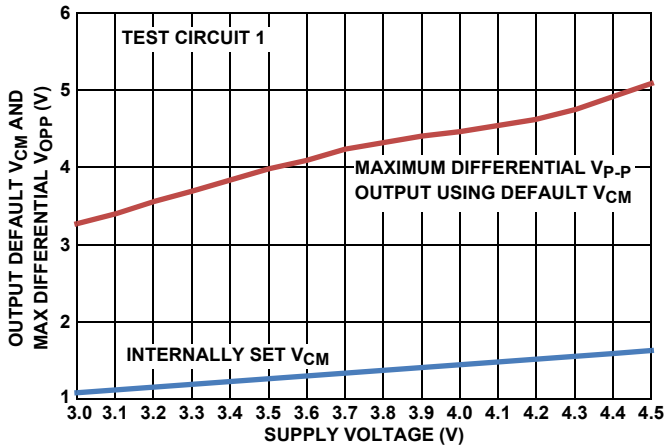
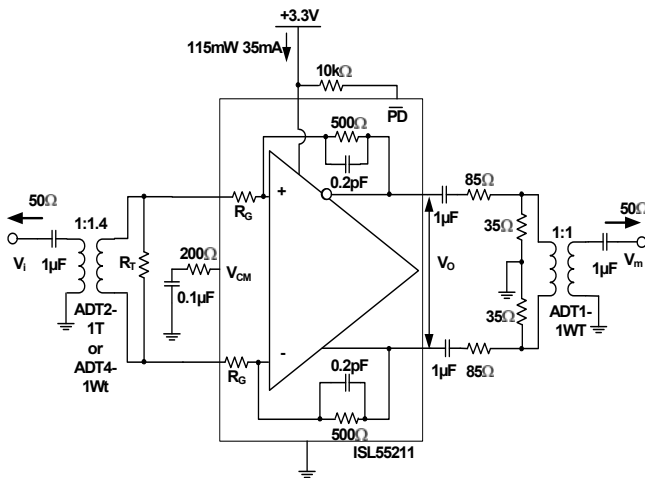
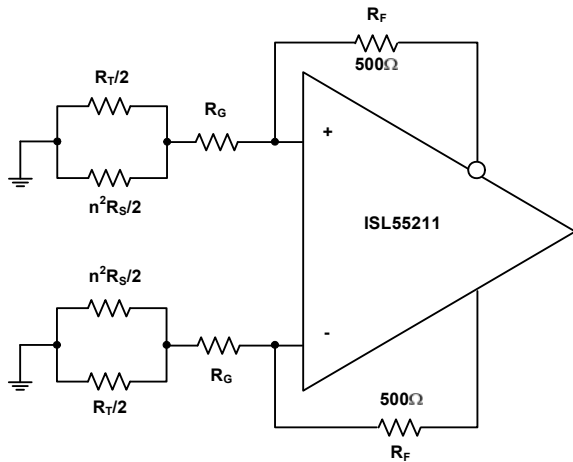
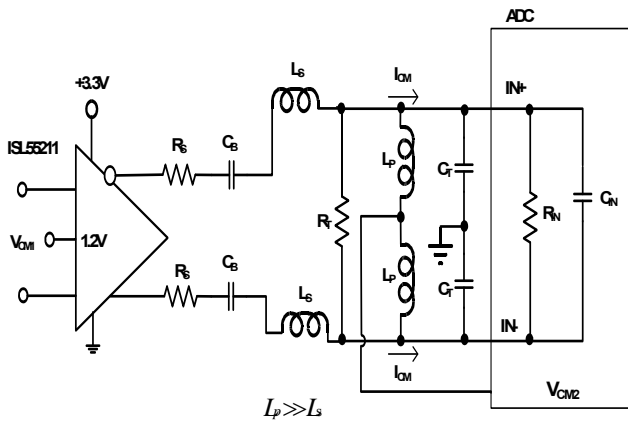

FIGURE 27. DEFAULT V_{CM} AND MAX V_{OPP} vs SUPPLY VOLTAGE
FIGURE 29. TEST CIRCUIT 1
FIGURE 35. NOISE GAIN MODEL FOR THE TRANSFORMER COUPLED INPUT CIRCUIT OF FIGURE 29
FIGURE 37. AC-COUPLED, HIGHER FREQUENCY RLC INTERSTAGE FILTER DESIGN
Test Circuit 1 of Figure 29 forms a starting point for many of the characterization curves for the ISL55211. Since most lab sources and measurement devices are single-ended, this circuit converts to differential at the input through a wideband transformer and would also be a typical application circuit coming from a single-ended source. Assuming the source is a 50Ω impedance, the internal R_G resistors and external R_T are set to provide both the input termination and the gain. Since the inverting summing nodes act as virtual ground points for AC signal analysis, the total termination impedance across the input transformer secondary will be $(2 * R_G) || R_T$. Setting this equal to $n^2 * R_S$ will give a matched input impedance inside the bandwidth of the transformer (where "n" is the turns ratio). The amplifier gain is fixed by the selected input R_G element and the internal 500Ω feedback resistors. While the ISL55211 is internally a Voltage Feedback Design (VFA) to give the lowest possible noise, internal compensation caps hold the bandwidth over gain setting approximately constant at 1.4GHz. For wider small signal bandwidth at lower gains, consider the ISL55210, which provides >2.2GHz at a gain of 12dB.
Working with a transformer coupled input as shown in Figure 29, or with two DC blocking caps from a differential source, means the output common mode voltage set by either the default internal V_{CM} setting, or a voltage applied to the V_{CM} control pin, will also appear as the input common mode voltage. This provides a very easy way to control the ISL55211 I/O common mode operating voltages for an AC-coupled signal path. The internal common mode loop holds the output pins to V_{CM} and, since there is no DC path for an I_{CM} current back towards the input in Figure 29, that V_{CM} setting will also appear as the input common mode voltage. It is useful, for this reason, to leave any input transformer secondary centertap unconnected. The internally set V_{CM} voltage is referenced from the negative supply pin. With a single 3.3V supply, it is very close to 1.2V but will change with total supply voltage across the device as shown in Figure 27.
Most of the characterization curves starting with Figure 29 then get different gains by changing the connections to the two pairs of input R_G connections, as shown on the pin configuration drawing on page 2. Two input turns ratios are intended for Test Circuit 1; either a 1:1.4 turns ratio (ohms ratio of 2) or a 1:2 turns ratio (ohm ratio of 4). The specific transformers shown in Figure 29 are representative of broadband RF transformers but alternate devices and manufacturers of these turns ratio devices are certainly applicable. The output side of this test circuit presents a differential 200Ω load while converting the differential to single-ended through a resistive attenuator and a 1:1 transformer. This inserts approximately a 17dB insertion loss that is removed to report the characteristic curves. For load tests below the 200Ω shown in Figure 29, a simple added shunt resistor is placed across the output pins. For loads > 200Ω, the series and shunt load R's are adjusted to show that total load (including the 50Ω measurement load reflected through the 1:1 output measurement port transformer) and provide an apparent 50Ω differential source to that transformer. This output side transformer is for measurement purposes only and is not necessary for final applications circuits. There are output interface designs that do benefit from a transformer as part of the signal path as shown in Figure 1. In that case, the 1:1.4 output side transformer becomes part of a filter design and recovers the filter insertion loss from the amplifier output pins to the ADC inputs.
The characterization circuit of Figure 29 shows one possible input stage interface that offers several advantages. Where AC coupling is adequate, the circuit of Figure 29 simplifies the input common mode voltage control. If the source coming into this stage is single-ended, the input transformer provides a zero power conversion to differential. The two gain resistors (R_G in Figure 29) provide both a portion of the input termination impedance and the gain element for the amplifier. For 50Ω systems, these R_G resistors are too high with the turns ratios shown in Figure 29 to provide the full match and an external R_T resistor is required. This R_T element goes away at the highest gain setting using a 1:2 input turns ratio transformer.
This input interface also simplifies the input common mode control. The V_{CM} pin controls the output common mode voltage. In most DC-coupled FDA applications, the input common mode voltage is determined by both this output common mode and the source signal. In a configuration like Figure 29, there is no path for a common mode current to flow from output to input, so the input common mode voltage equals the output. A similar effect could be achieved with just two blocking caps on the two R_G resistors. A DC-coupled, single to differential, configuration will also have a common mode input that is moving with the input signal. Converting to just a differential signal at the amplifier, as in Figure 29, removes any input signal related artifacts from the input common mode making the ISL55211 behave as a differential only VFA amplifier. There is only a very small differential error signal at the inputs set by the loop gain, as in a
of 1.3V for instance, then $1.3V + 0.9V + 1.5V = 3.7V$ will give an unclipped $3.6V_{P,P}$ output capability. The $V_{P,P}$ reported in Figure 27 is an asymmetrically clipped maximum swing. Going 10% above this 3.7V target to 4.1V will be within the recommended operating range and give some tolerancing headroom that would also suggest the V_{CM} voltage be moved up to approximately 1.5V, which coincides with the default output V_{CM} from Figure 27. Operating at +4.1V single supply in a Figure 29 type configuration will give the maximum linear differential output swing of $3.6V_{P,P}$.
The differential inputs internal to the ISL55211 also have operating range limits relative to the supply voltages. Operating in an AC-coupled circuit like Figure 29 will produce an input common mode voltage equal to the outputs. The inputs can operate with full linearity with this V_{CM} voltage down to 1.1V above the $-V_S$ supply. On the default 1.2V output V_{CM} on +3.3V supplies this gives a 100mV guardband on the input V_{CM} voltages. Overriding the default V_{CM} by applying a control voltage to the V_{CM} pin should be done with care in going towards the negative supply due to this limit. On the + side, the maximum input V_{CM} above the $-V_S$ supply is 2V so there is more room to move the output V_{CM} up than down from the default value.
+85°C maximum operating ambient from Figure 27, we get $4.5V \times 45mA \times 120^\circ C/W = +24^\circ C$ rise above +85°C or approximately +109°C operating T_j maximum - still well below the specified Absolute Maximum operating junction temperature of +135°C.
Adding an input transformer can improve the input referred noise by adding a noiseless voltage gain. Starting from Test Circuit 1 of Figure 29, and assuming the source shows a matched broadband source R_S that will be matched by the input referred parallel combination of 2*R_G || R_T, a noise gain analysis circuit can be developed as shown in Figure 35.
Stepping through the 3 gain settings with two input transformers will allow the noise gain to be calculated for the circuit of Figure 35, which is all that is needed in Equation 1 to arrive at an output differential noise (since R_F is fixed at 500Ω). Doing this gives Table 4.
- AC-coupled, higher frequency range interstage filter design. This design replaces the R_T resistors in Figure 35 with large valued inductors and implements the filter just using shunt resistors at the end of the RLC filter. In this case, the ADC V_{CM} can be tied to the centerpoint of the bias path inductors (very much like a Bias-T) to provide the common mode voltage and current to the ADC inputs. These bias inductors do limit the low frequency end of the operation where, with $1\mu\text{H}$ values, operation from 10MHz to 200MHz is supported using the approach of Figure 37.